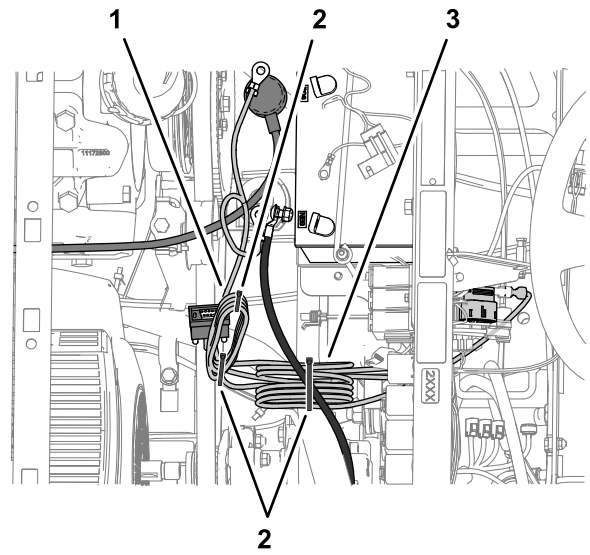

Figure 189
6. Near the fuse block bundle the modem power-harness at the 9-pin connector labeled RS232 and secure the harness with 2 cable ties as shown in Figure 189.
7. Bundle the modem power-harness at the negative battery cable, and secure the bundle to the battery cable with a cable tie as shown in Figure 189.